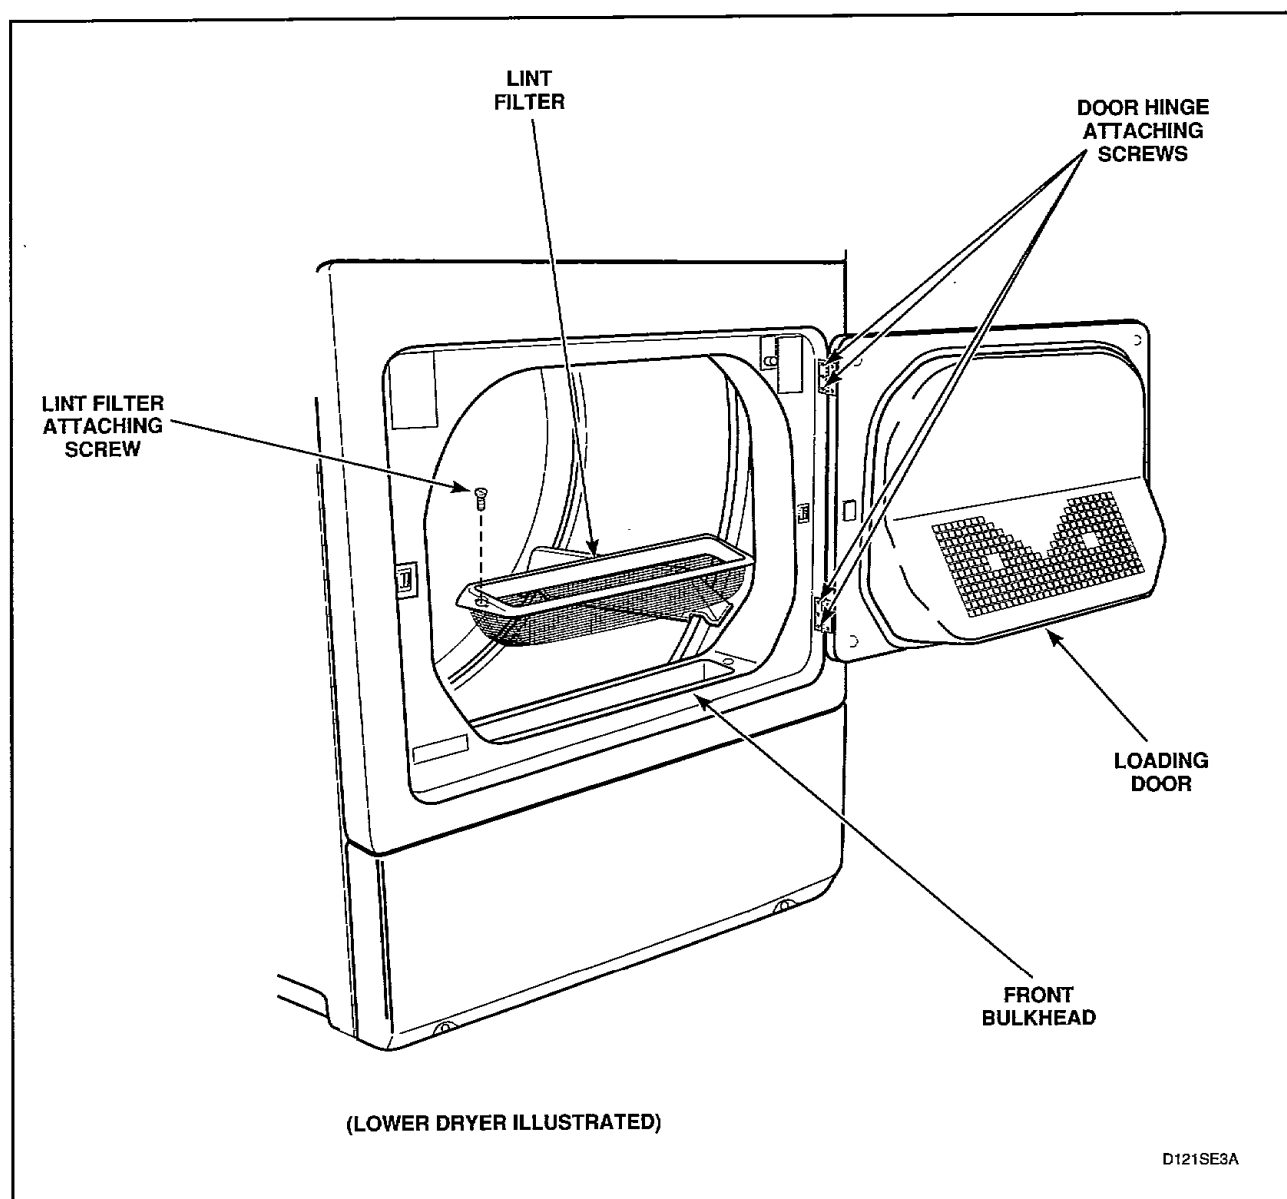

Figure 17
12. LINT FILTER (Figure 17)
- Open loading door, Figure 17.
- Support loading door and remove screws holding loading door and hinges to front panel, Figure 17.
- a. Remove screws holding loading door assembly and hinge to front panel, *Figure 17*.